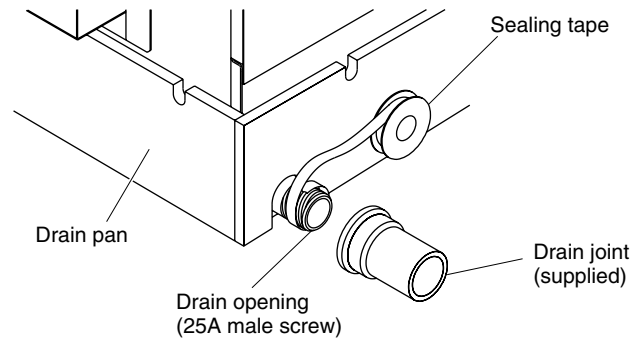
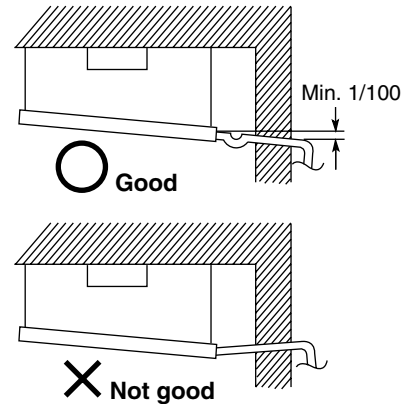

Fig. 3-173
Fig. 3-174
- (2) If connecting a drain joint (supplied) to the threaded drain port, first wrap the drain port threads with sealing tape, then connect the joint. (Fig. 3-173)
- (3) After connecting the drain pipe securely, wrap insulator (field supply) around the pipe.
- (4) Ensure the drain pipe has a downward gradient (1/100 or more) and prepare traps as indicated in Fig. 3-174.